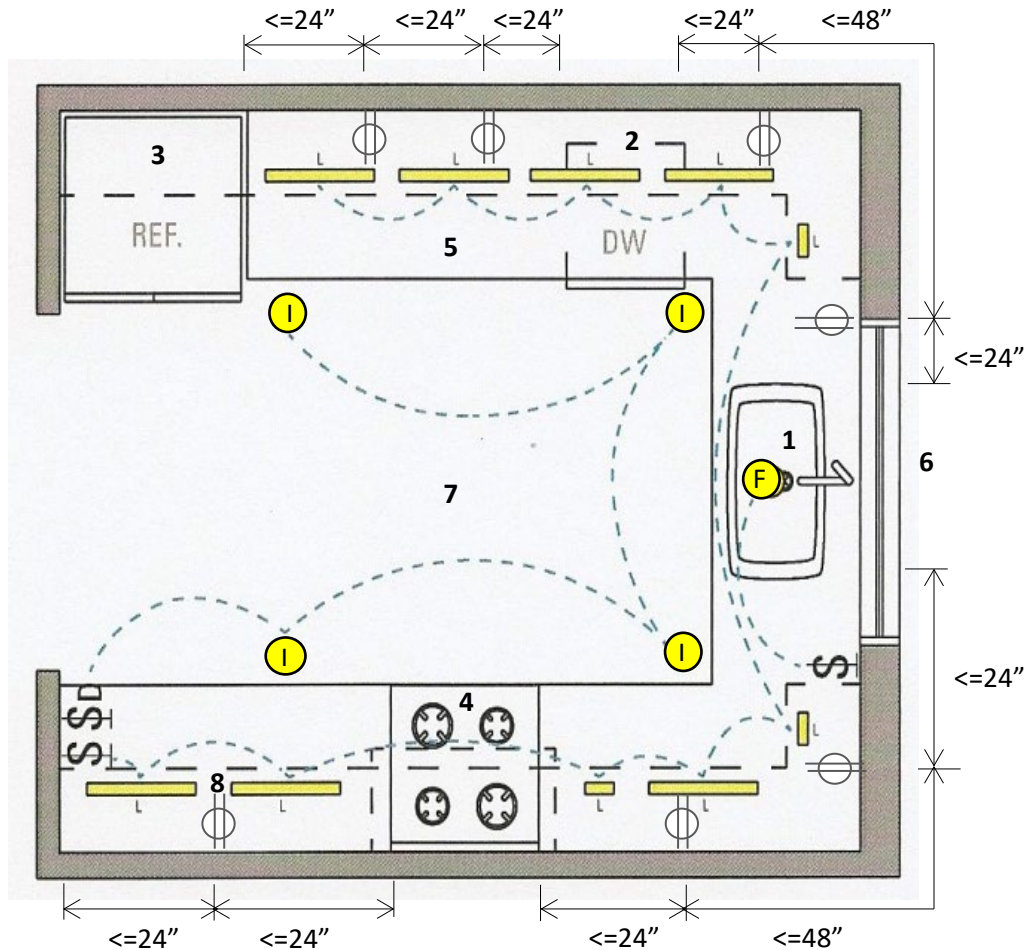

Figure 1
If the scope of work includes the reconfiguration of the kitchen layout, please submit **three (3)** sets of plans (minimum 11-in x 17-in drawings) depicting the existing and proposed kitchen floor plan and a written detailed description of the scope of work. It is important the plans clearly show all work proposed to avoid delays in permit issuance. Once a permit is issued, the scope of work is limited as defined and illustrated in the documents filed and the items to be replaced in the checklist below. See sample (figure 1) on next page. The applicant is responsible for compliance with all code regulations. If the scope of work is altered after permit issuance, the applicant shall request the permit be updated.